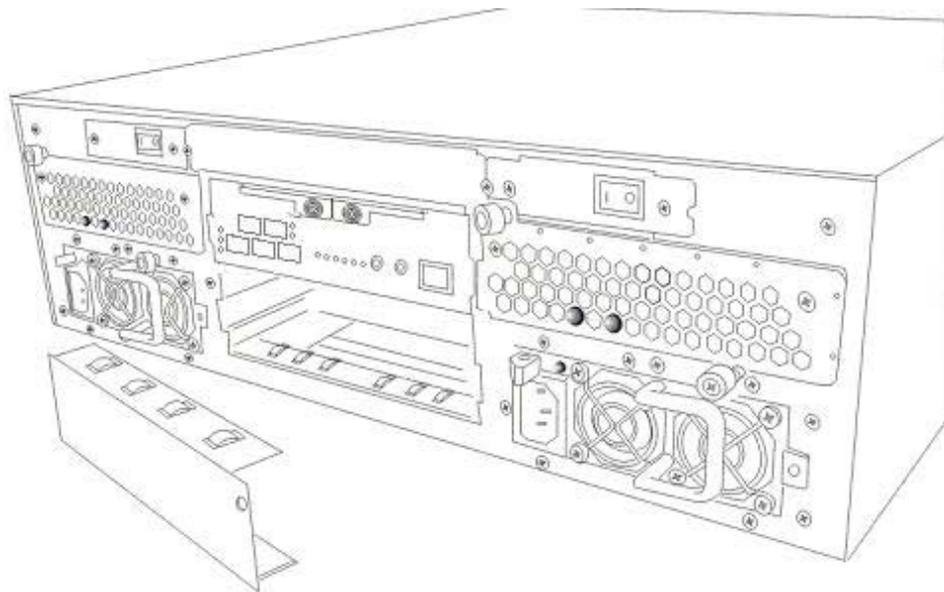

Figure 5-12: Remove the Metal Sheet
Step 4. Remove the metal sheet. After the retention screws have been removed from the subsystem, remove the metal sheet from the controller bay. (See *Figure 5-12*)